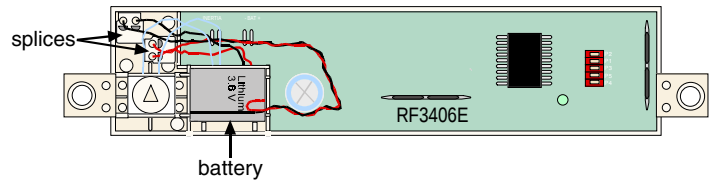

Figure 6 - Completing the Battery Installation
5. Place both wire splices in the open cavity at the end of the transmitter base, as shown in Figure 6.
6. Insert the battery in the transmitter housing as shown in Figure 6.